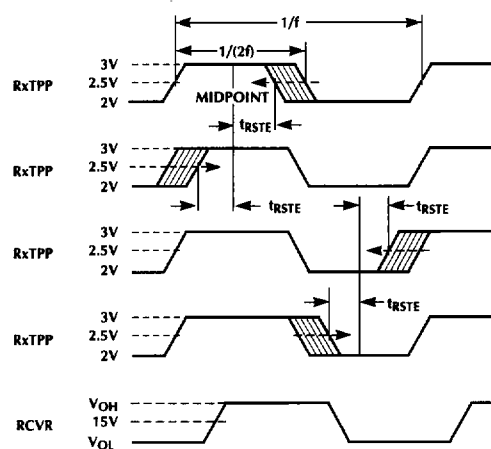

Figure 5. Receiver Static Timing Error Test.
**Note 11:** The ML6682 is phase-locked to the RxTPP waveform with RxTPN biased to 2.5V (see Figure 5). Monitor RxD to observe correct data being latched. For one pulse, shorten the positive pulse at RxTPP by moving the rising edge, and check to see if the short pulse was latched. Continue to shorten the pulse in this manner until incorrect data appears at RxCLK. The time between the rising edge and the unshortened positive pulse midpoint is  $t_{RSTC}$ . Repeat this procedure for the other 3 cases shown in Figure 5.